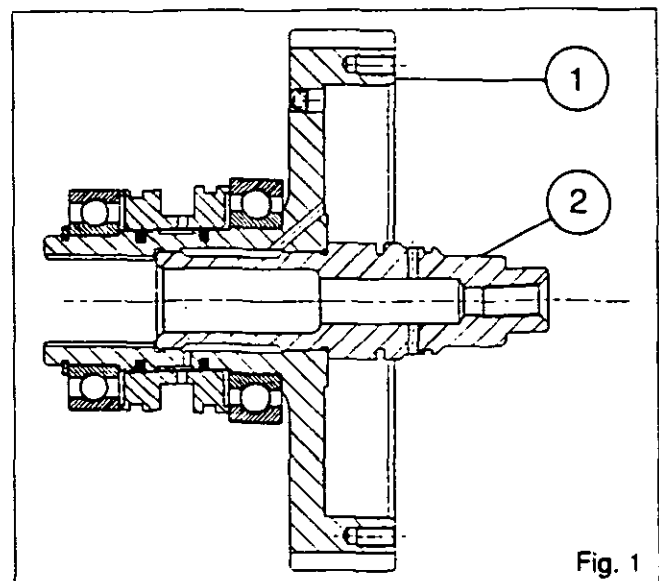

Fig. 1
**Version without PTO (Fig. 1)**